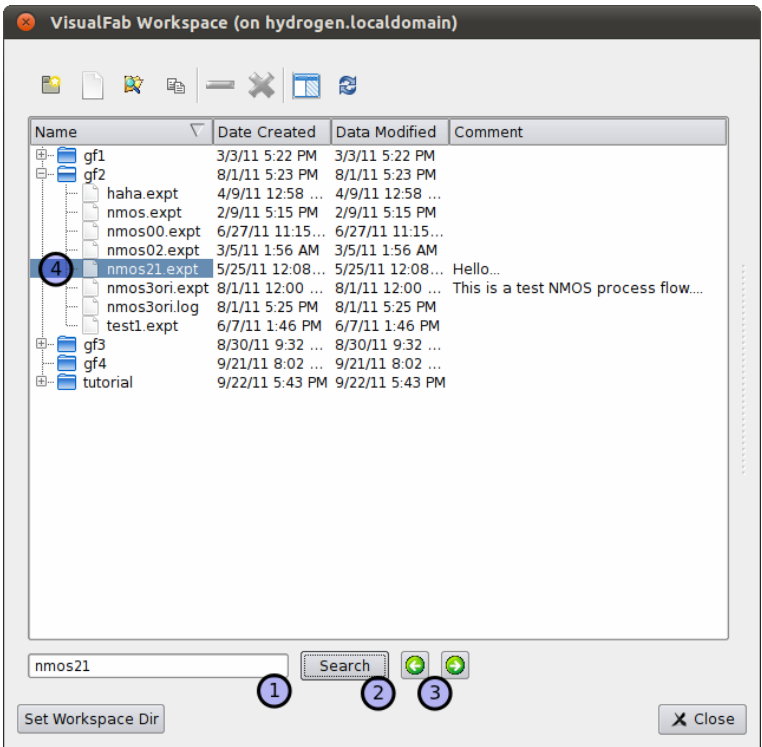

Figure 3.15 Search for experiments.
If one wants to look for an experiment, one can type its partial name in the search box (1) shown in **Figure 3.15, p. 27**, and click Search (2). The matches will be highlighted in the workspace (4), and one can skim through the matches with the previous (2) and next (3) buttons.